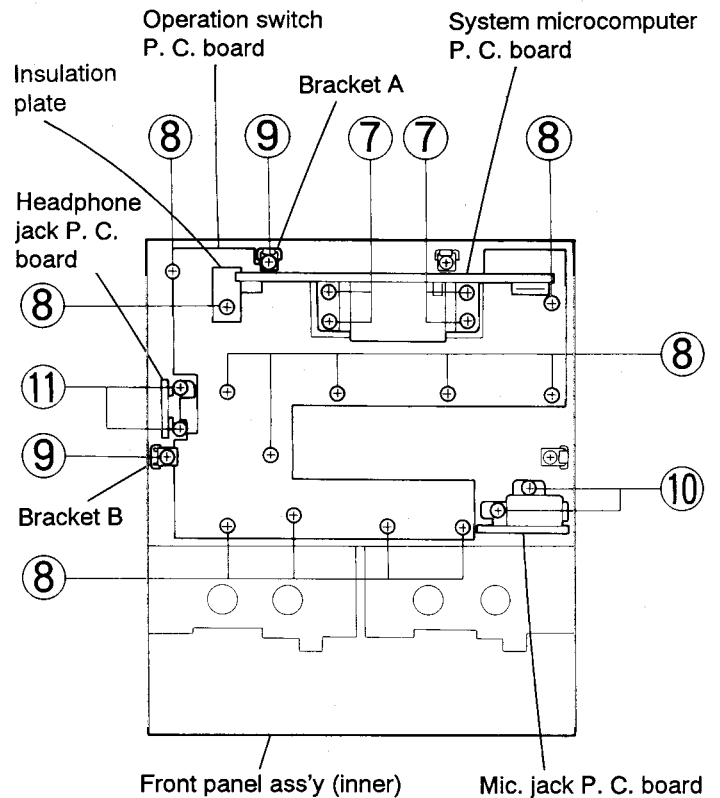

Fig. 5-10
■ How to Remove the Front Panel (Refer to Fig. 5-10)
3. From the front panel, remove the four screws (7) retaining the system microcomputer P.C. board.
4. From the front panel, remove the twelve screws (8) retaining the Operation switch P.C. board together with the insulation sheet.
5. From the front panel, remove the two screws (9) retaining the brackets (A and B).
7. From the front panel, remove the two screws (10) retaining the headphone jack P.C. board.
8. From the front panel, remove the two screws (11) retaining the MIC jack P.C. board.